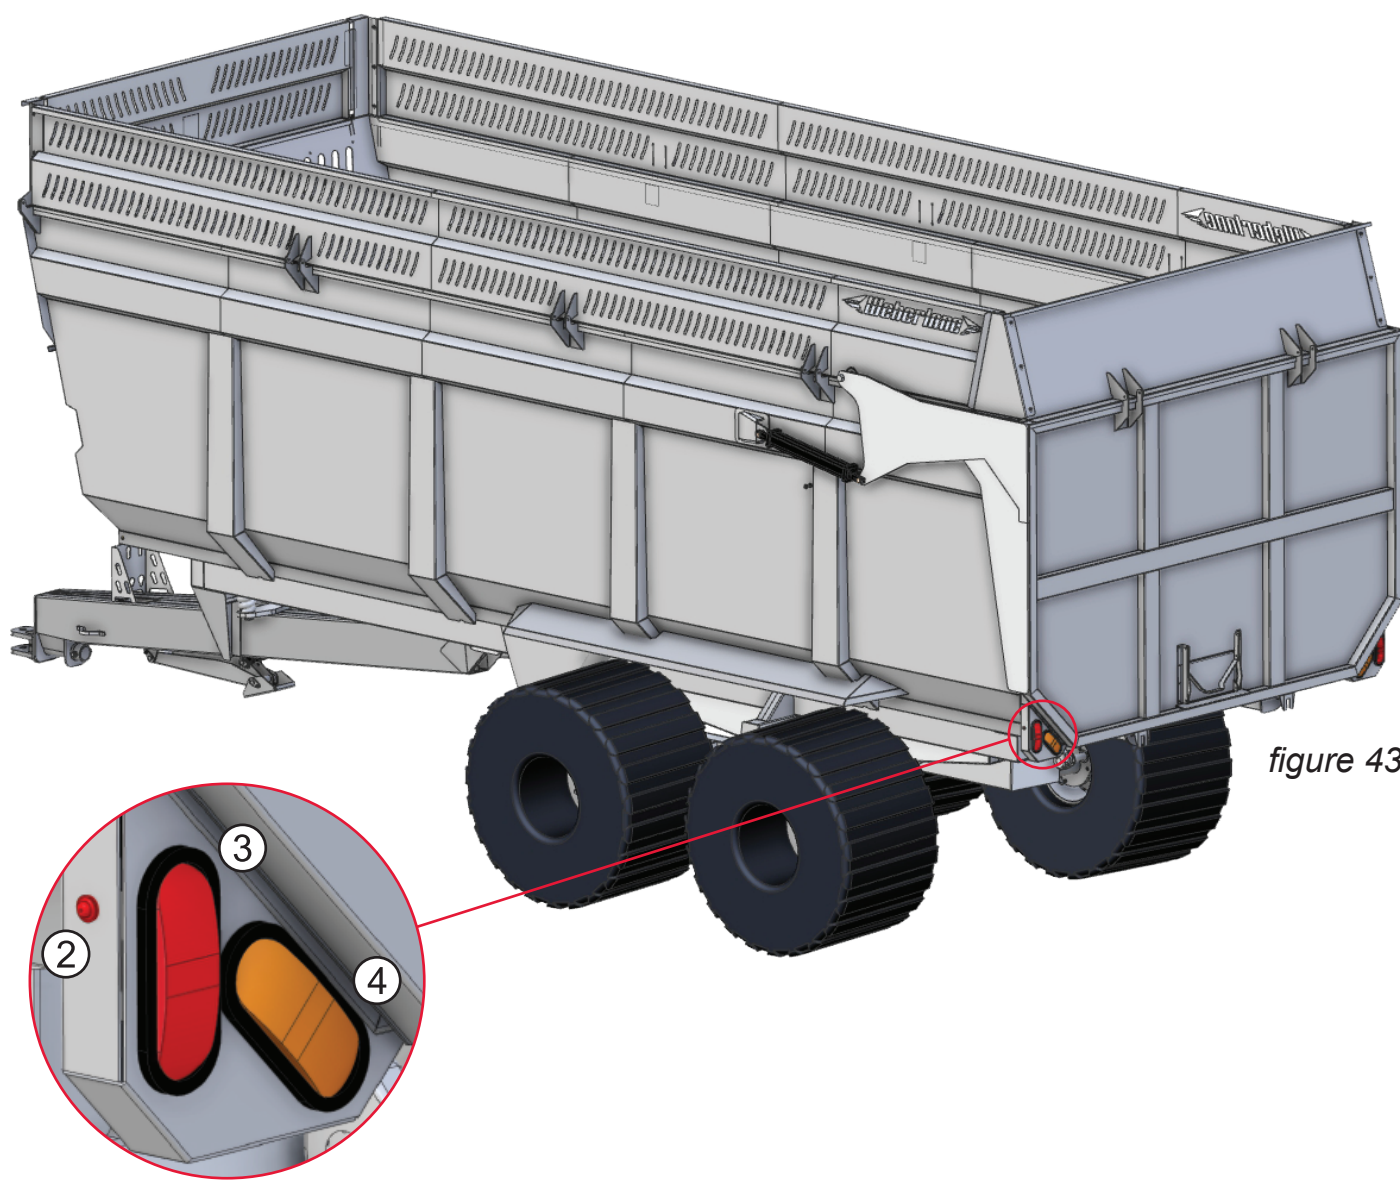

figure 43
2. REAR RED LIGHTS - 1 PER SIDE (See figure 43):
3. REAR OVAL RED LIGHTS - 1 PER SIDE (See figure 43):
4. REAR OVAL AMBER LIGHTS - 1 PER SIDE (See figure 43):